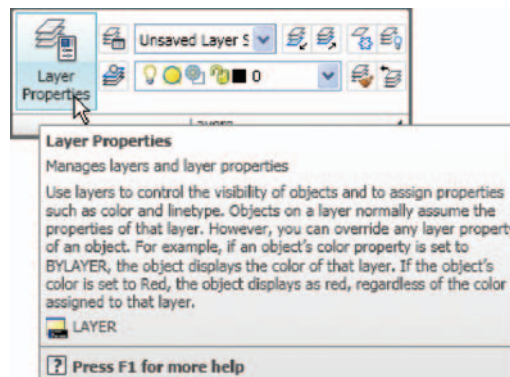
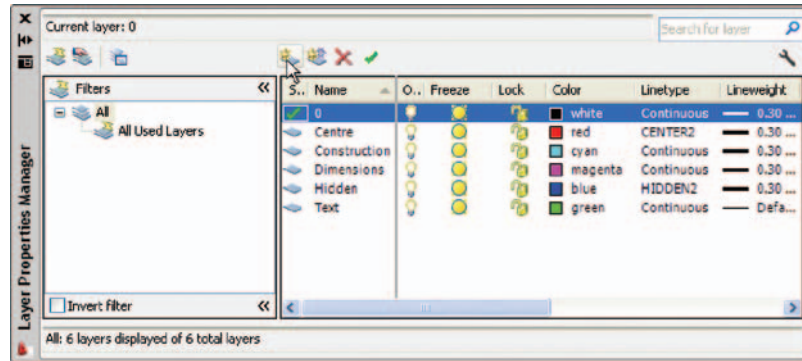

Fig. 4.16 The **Layer Properties Manager** icon in the **Home/Layers** panel
Fig. 4.17 The Layer Properties Manager dialog
1. *Left-click* on the **Layer...** tool icon in the **Home/Layers** panel (Fig. 4.16). The **Layer Properties Manager** dialog appears on screen (Fig. 4.17).